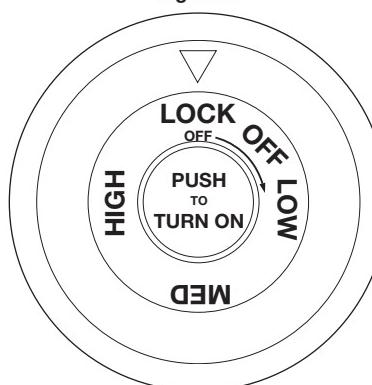

Figure 2
1. Make sure the regulator/control knob is in the "LOCK/OFF" position. (Figure 2)
1. Turn the regulator/control knob to the "LOCK/OFF" position. (Figure 2)
2. Make sure regulator/control knob is "LOCK/OFF". (Figure 2)
4. The regulator/control knob must be in the "LOCK/OFF" position. (Figure 2)
1. Turn regulator/control knob to the "LOCK/OFF" position. (Figure 2)